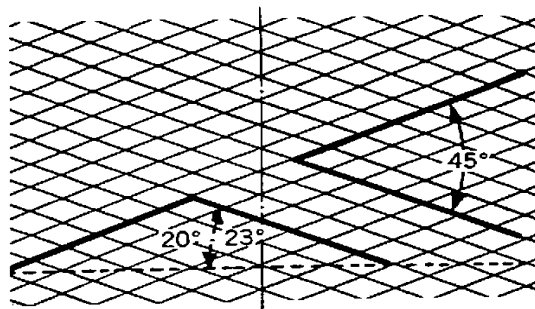

Fig. 63B. Honing pattern in the cylinder liner
For good lubrication and sealing it is important that the liner walls retain the original honing pattern, see fig. 63B. Honing to restore the pattern is therefore to be carried out when e.g.
5. The cylinder liner has a honing pattern where the angles are carefully calculated to give optimal life (fig. 63B).